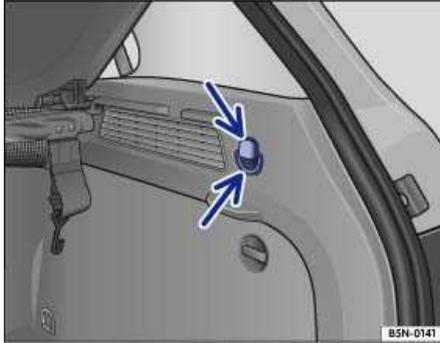

Fig. 93 In the luggage compartment: Shopping bag hooks.
- Press on the bottom of the shopping bag hook ⇒ Fig. 93 (arrow) to fold out the hook **or**
- Press the top of the hook ⇒ Fig. 93 (arrow).